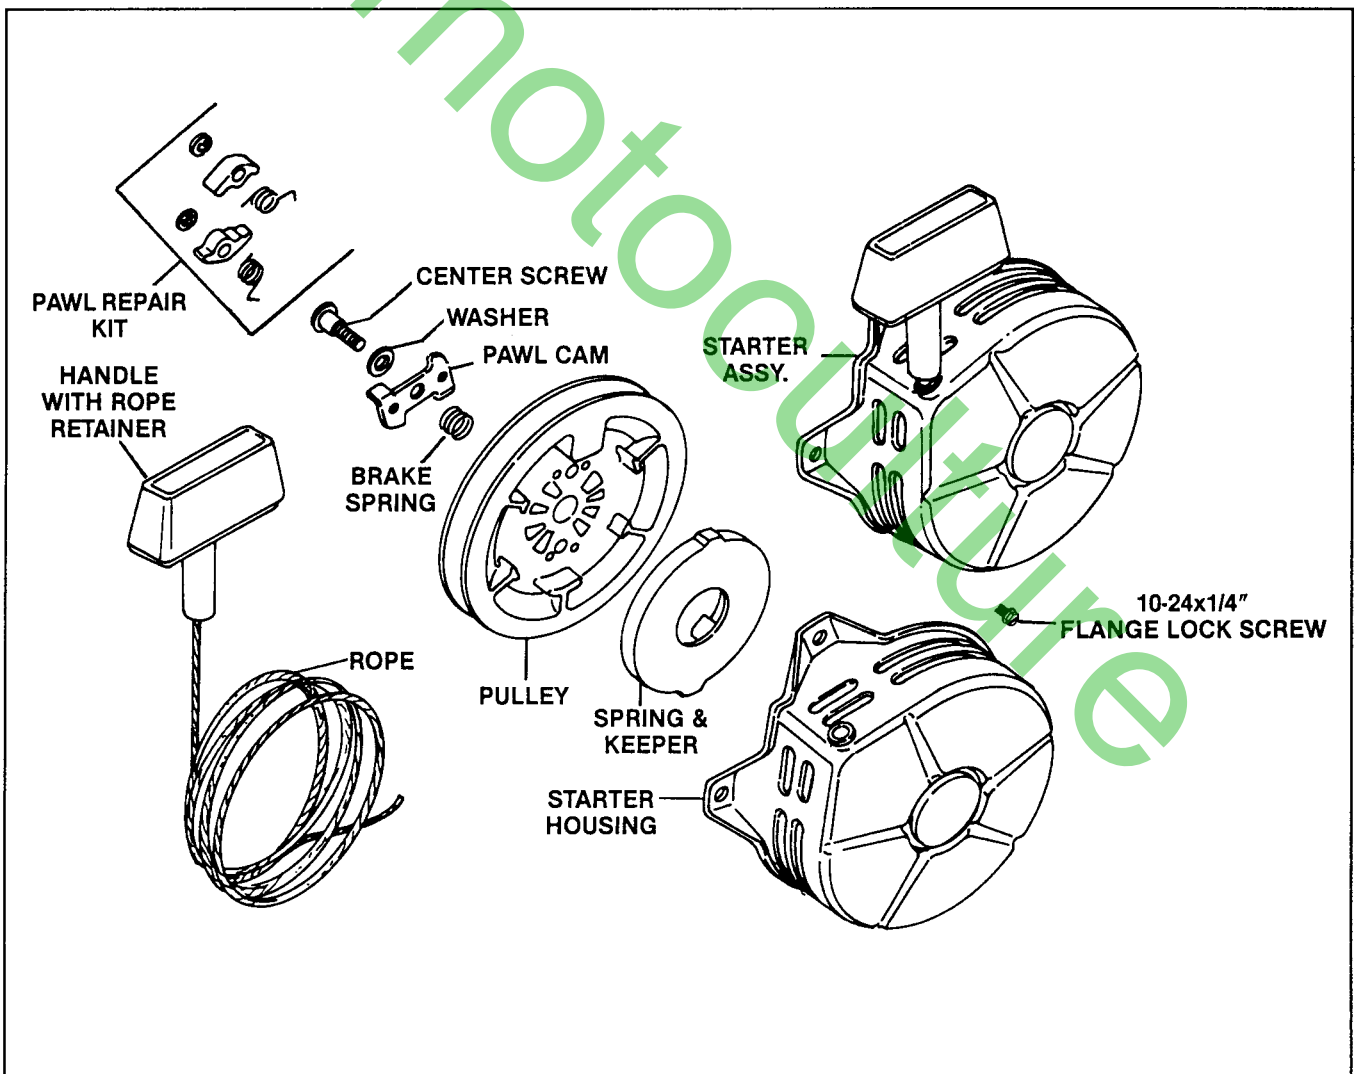

Figure 7-3. Exploded View.
2. Replace all worn or damaged components. Use only genuine Kohler replacement parts specified in the Parts Manual. All components shown in Figure 7-3 are available as service parts. Do not use nonstandard parts.
3. Lubricate the brake spring sparingly with grease. Install the brake spring into the recess in center shaft of starter housing. Refer to Figure 7-3. (Make sure the threads in center shaft remain clean, dry, and free of grease or oil.)